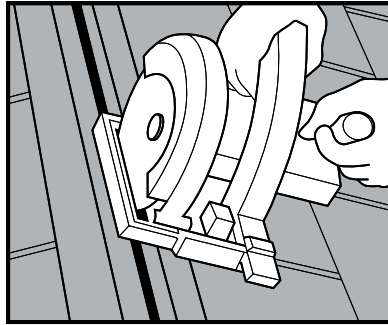

Fig. 1
- 2) For roofs with a ridge board, cut a  $\frac{5}{8}$  inch slot in the roof sheathing beyond each side of the ridge board. For an engineered truss roof, cut a  $\frac{5}{8}$  inch slot on each side of the ridge (total slot width of 1  $\frac{1}{4}$  inches). See Figure 1.
**IMPORTANT:** Start and end your cut 6 inches in from the rake edges (snapping chalk lines will aid in keeping a uniform ridge opening). Set your saw depth to cut the decking only. Do not cut into the roof framing. See Figure 1.